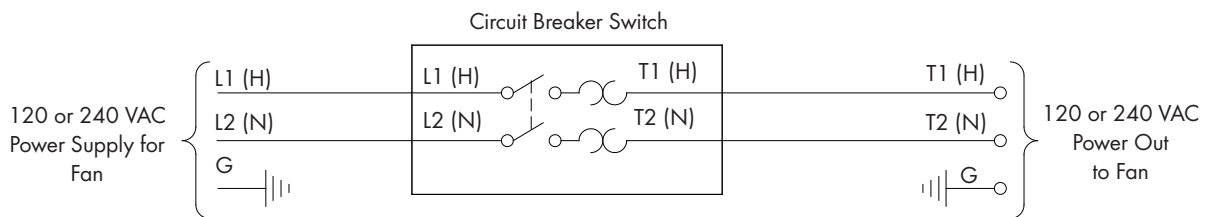

Figure 30A
**Single Phase Fans:** motor overload protection should be provided for each fan. A Circuit Breaker Switch or slow blow motor type fuses must be used, *See Figure 30A. See form QM1400 for proper size.*